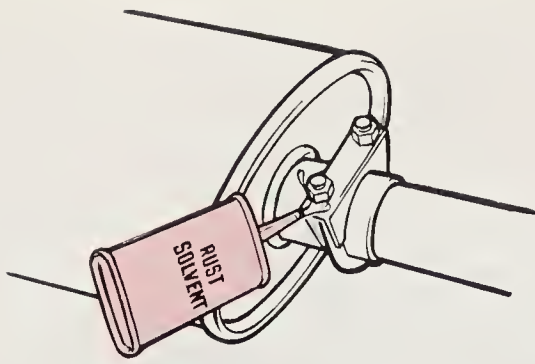

Fig. 25-6. Rust penetrant or solvent will ease removal of badly rusted fasteners. (AP)
1. Use **RUST PENETRANT** on all threaded fasteners that will be reused, Fig. 25-6. This is especially important on the exhaust manifold flange nuts or bolts.